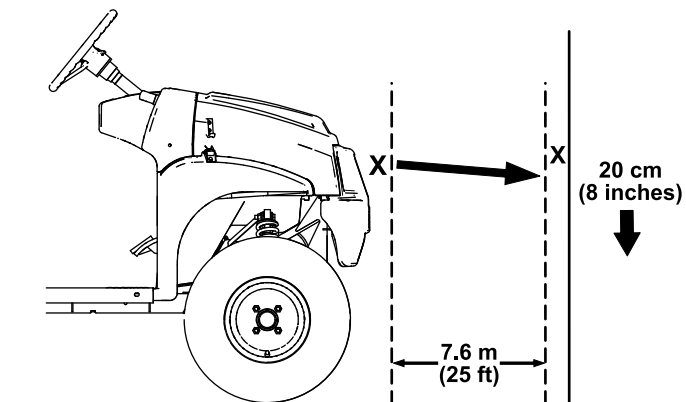

Figure 50
- Park the machine on a level surface with the headlights approximately 7.6 m (25 ft) from a wall (Figure 50).
The brightest part of the headlight beam should be 20 cm (8 inches) below the mark placed on the wall (Figure 50).